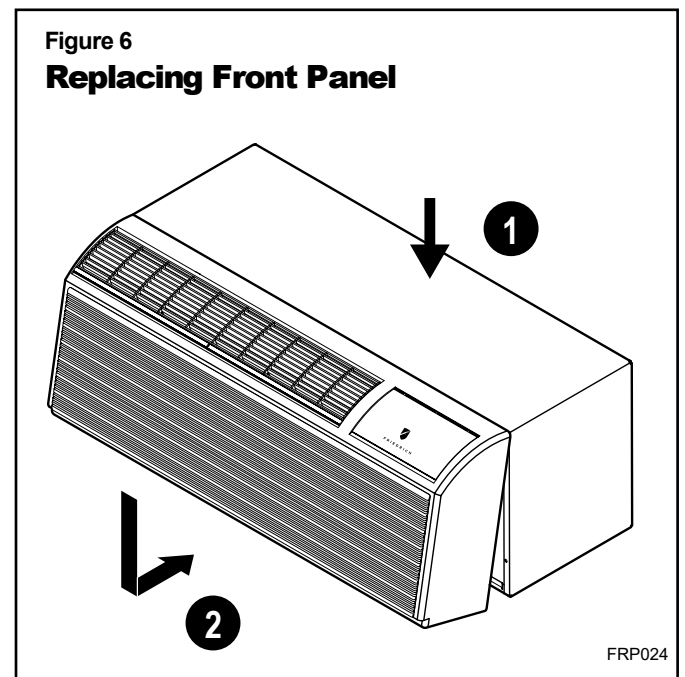

Figure 6
6. Replace front panel. See Figure 6.